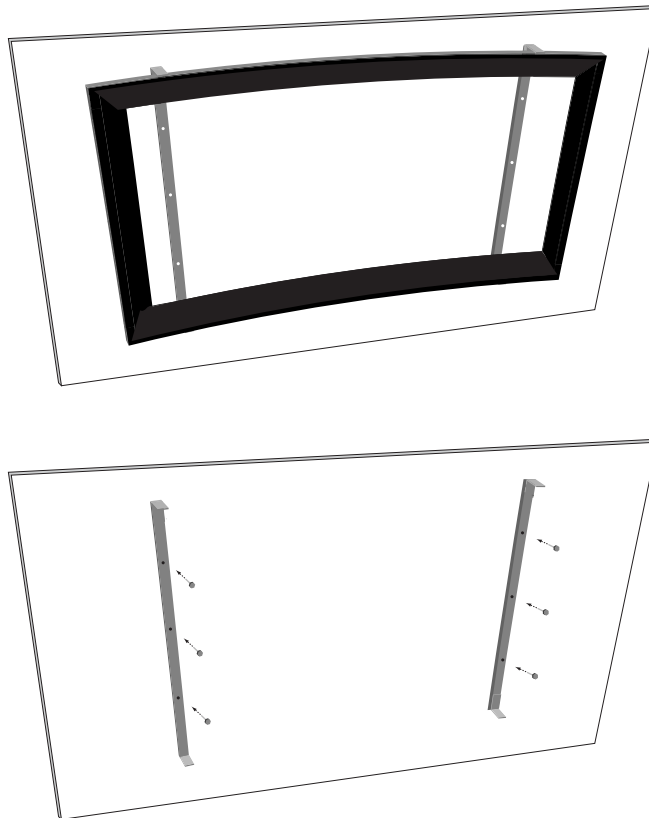

Figure 3: Attaching wall brackets to the wall
1. Without the screen fabric attached, position the frame and brackets on the wall. Refer to Figure 3.
5. Remove the brackets from the frame and attach them to the wall using the appropriate fasteners (hex lag screws, wall anchors, molly bolts, wood carriage screws, etc.). Refer to Figure 3.